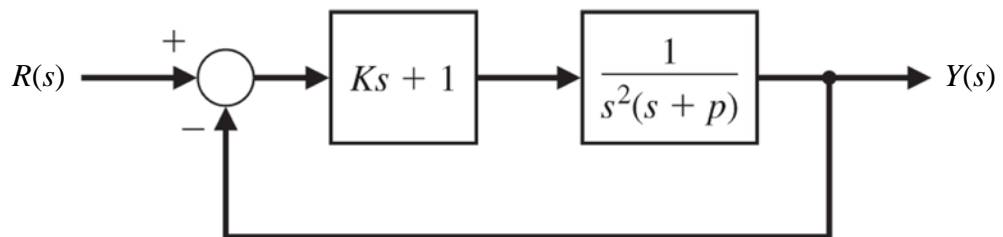

Figure Q4[c]
- [c] A closed loop system is shown in Figure Q4[c]. For what range of values of parameters K and p is the system stable?**